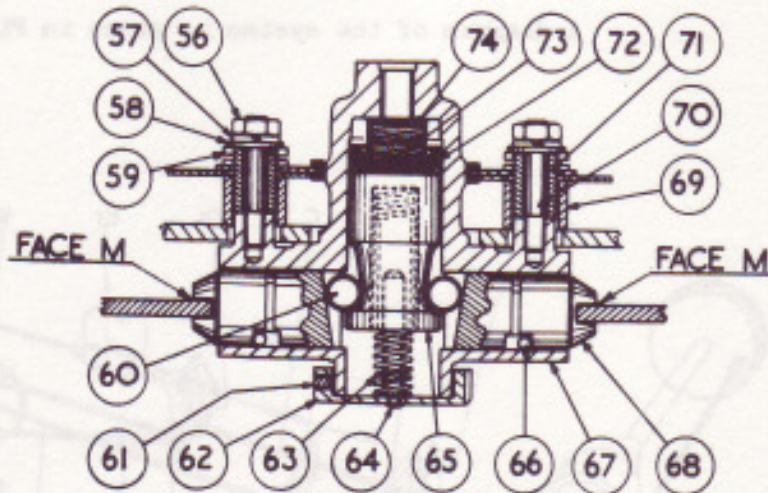

FIG.2. SECTION THROUGH FRONT EXPANDER.
The front brake shoes are operated by a hydraulic expander unit as shown in Fig.2. The expander cone (65) which is actuated by oil pressure on the rubber cup (72) causes the plungers (68) to move outwards. Hardened steel rollers (60) are interposed between the cone and the plungers to reduce friction to a minimum. The plungers engage directly with the brake shoe webs. On releasing the brake pedal and hence the oil pressure on the rubber cup, the spring (63) returns the expander cone to the "off" position. The whole expander mechanism is enclosed in a cast housing (67).
The method of adjustment is the same for both front and rear brakes with the exception that a hand screw (B Fig. 2) is provided on the rear brake adjuster, which is a 7/8" B.S.F. open-ended spanner must be used on the upper end of the front brake adjuster screws (A Fig. 2). The rear adjusters are located on the brake carrier plate forward of the axle tubes, and the front adjusters on the brake carrier plate directly below the steering lever pins.